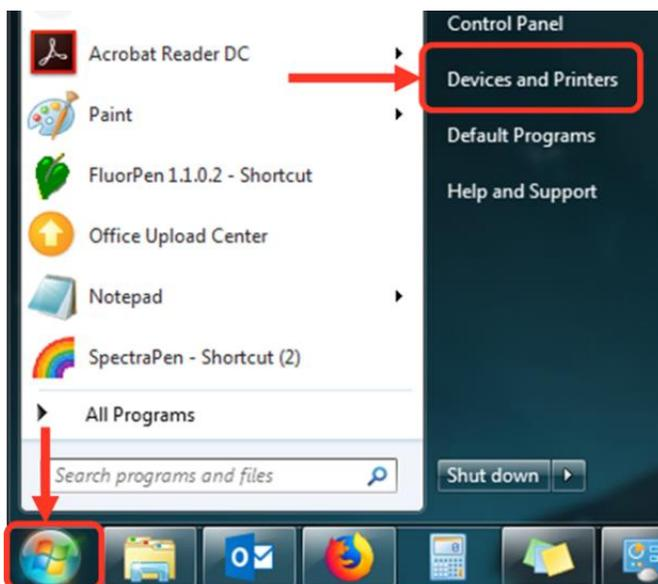

Fig. 11 Bluetooth application - start.
- Select: Start > Devices and Printers (Fig. 11).